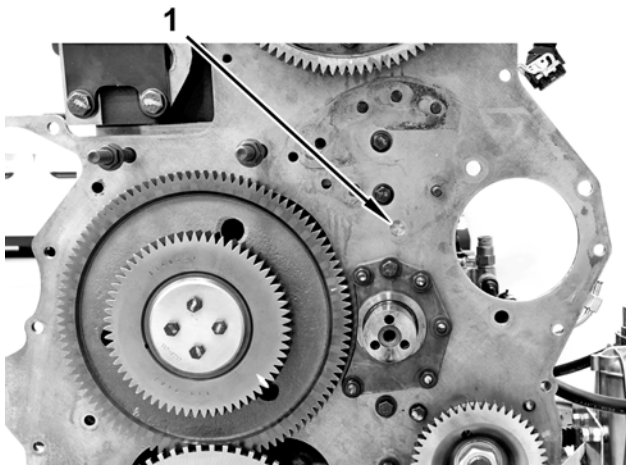

Figure 6 Adjustable Idler Pilot Hole
13. Inspect adjustable idler pilot hole (Figure 6, Item 1).